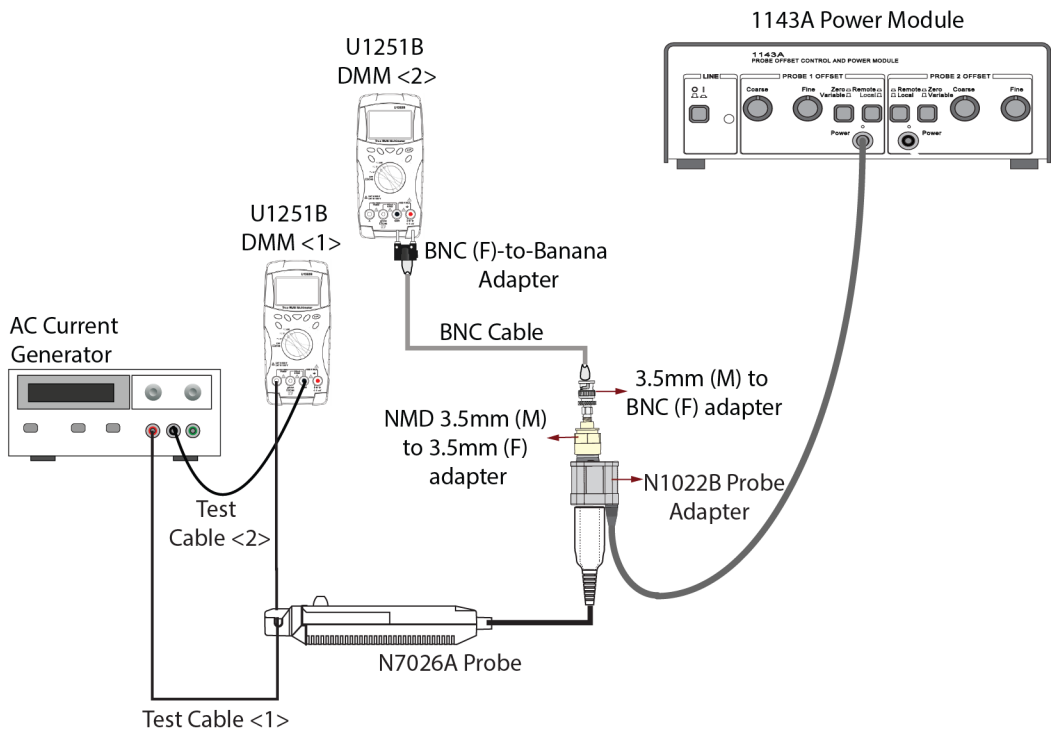

Figure 12 Complete Test Setup
- 10 As displayed in **Figure 12**, connect a BNC cable to the:
- a N1022B adapter's output using the NMD 3.5mm (M) to 3.5mm (F) adapter and 3.5mm (M) to BNC (F) adapter.
- b DMM <2> using a BNC (F)-to-banana adapter.